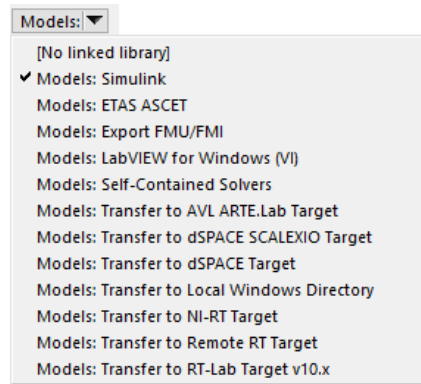

Figure 5. Drop-down list to choose a Model library option.
- 5 **Models** drop-down control. The VS Browser includes several screens in the category **Models** that can be used to specify interfaces to RT HIL platforms, third-party software, and custom programs that provide model extensions. The drop-down list (Figure 5) is used to specify a **Models** library for the link.